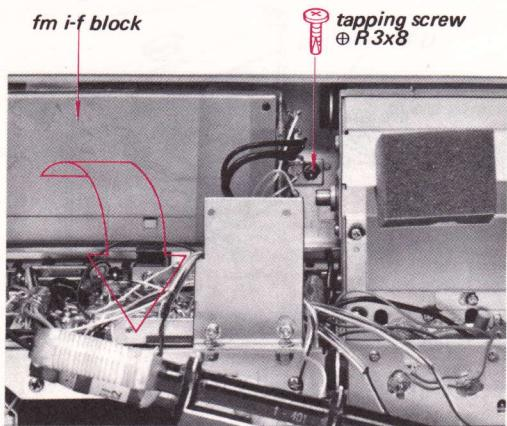

Fig. 2-11
2. Remove the screw shown in Fig. 2-11 and remove the fm if block in the direction shown by the arrow.